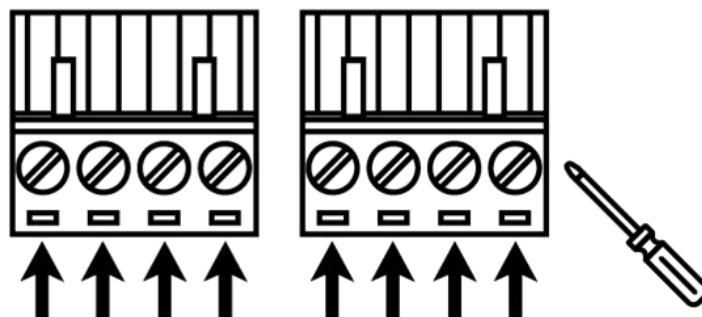

Figure 2.10: Power Terminal Block
Step 2 Tighten the wire-clamp screws to prevent the wires from loosening, as shown below in Figure 2.10.